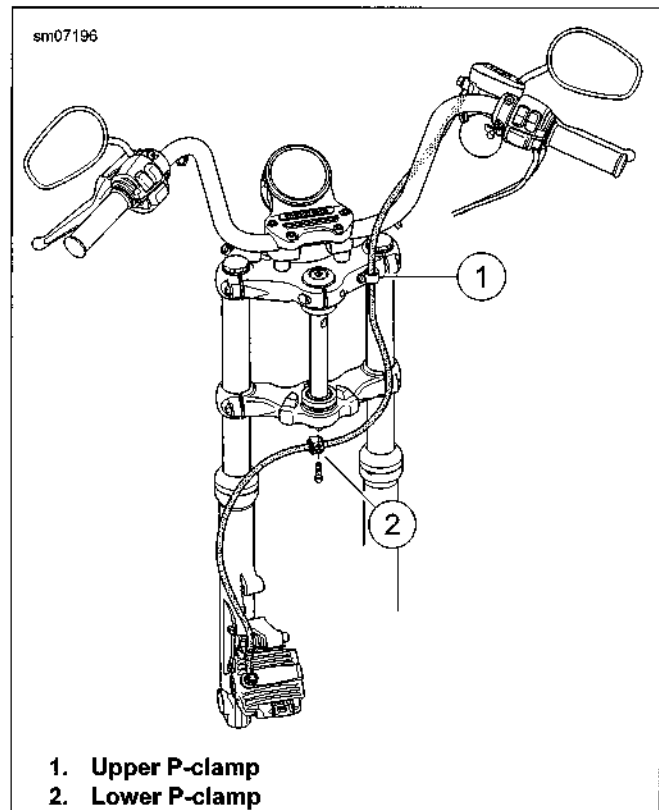

Figure 2-80. Brake Line Routing: XL 1200V/CP/CB w/Mini-Ape
2. See Figure 2-80. Match the straight banjo bolt fitting to master cylinder.